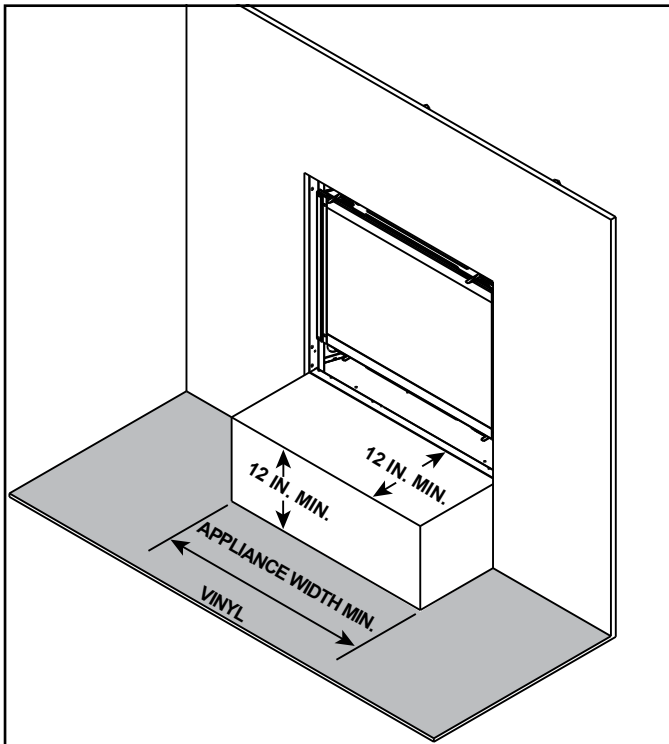

Figure 3.17 Vinyl Flooring Recommendations
Vinyl flooring is sensitive to heat. To avoid damage to the vinyl flooring, a 12 inch minimum x 12 inch minimum hearth is recommended when using vinyl flooring up to the wall. See Figure 3.17. If no hearth is used, it is recommended to provide a minimum of 30 inches of clearance in front of the appliance to the vinyl flooring OR the bottom of the appliance should be raised a minimum of 24 inches off of the floor to allow the vinyl flooring to be installed up to the wall.
- Combustible flooring may be located in front of the appliance. There are exceptions in regards to vinyl and/or adhesive flooring for these models as noted in Figure 3.17.